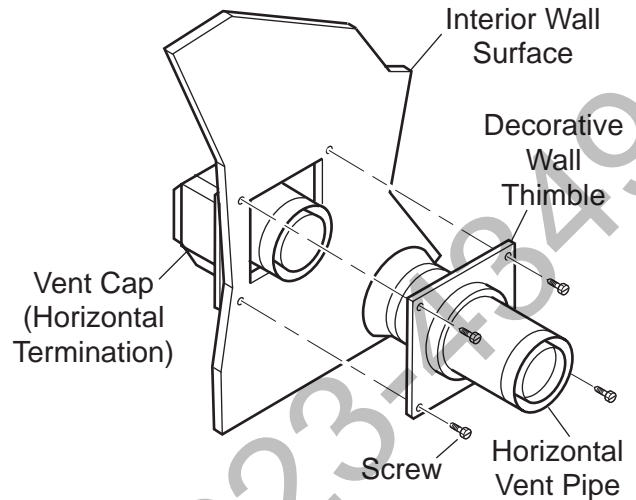

Figure 18 - Connecting Vent Cap with Horizontal Vent Pipe
- Slide the wall thimble over the vent pipe before connecting the horizontal run to the vent cap. *See Figure 18.*
- Slide the wall thimble against the interior wall surface and attach with screws. *See Figure 18.*